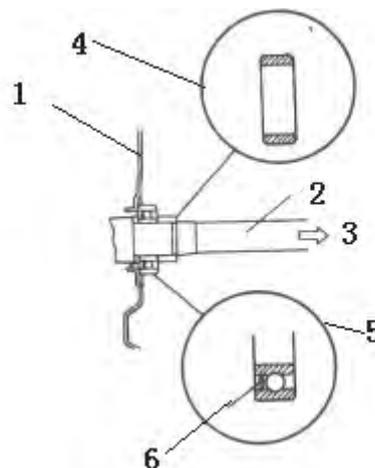

FIG 13-31
(1) Wash half-axle , half-axle bearing and bearing spacer to be free from dirty and others using metal scour. If burr or hard matter being found, grind them with sandpaper or iron brush.
(2) press rear brake bottom plate, half-axle pacer, half-axle bearing and bearing spacer into half-axle in turn.(FIG.13-31)